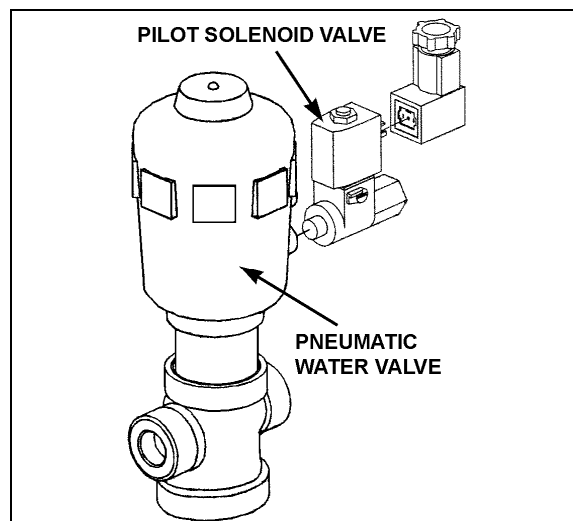

FIGURE 43: CENTRAL HOT WATER PNEUMATIC VALVE ASSEMBLY
2. The water valve need not be removed from the line. Unscrew nipple, the actuator casing, tube, spindle and closure member can be removed (Fig. 43).